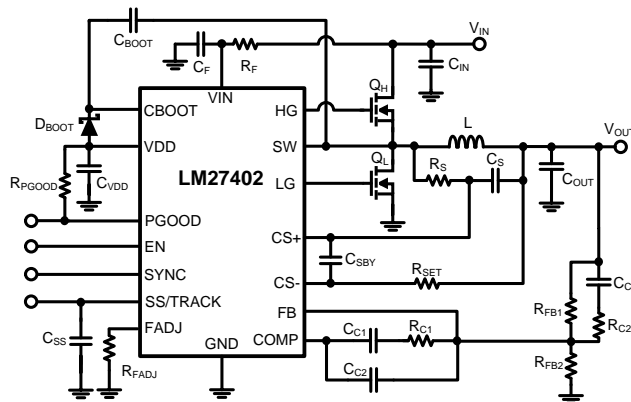

Figure 26. Typical Application Circuit
The Design Guide assists the designer with the steps necessary to select the external components to build a fully functional power supply. As with any DC-DC converter numerous tradeoffs are possible to optimize the design for efficiency, size, or performance. These tradeoffs will be taken into account and highlighted throughout the discussion. To facilitate component selection, the circuit shown in Figure 26 below may be used as a reference. Unless otherwise indicated, all formulae assume units of Amps (A) for current, Farads (F) for capacitance, Henries (H) for inductance and Volts (V) for voltage.